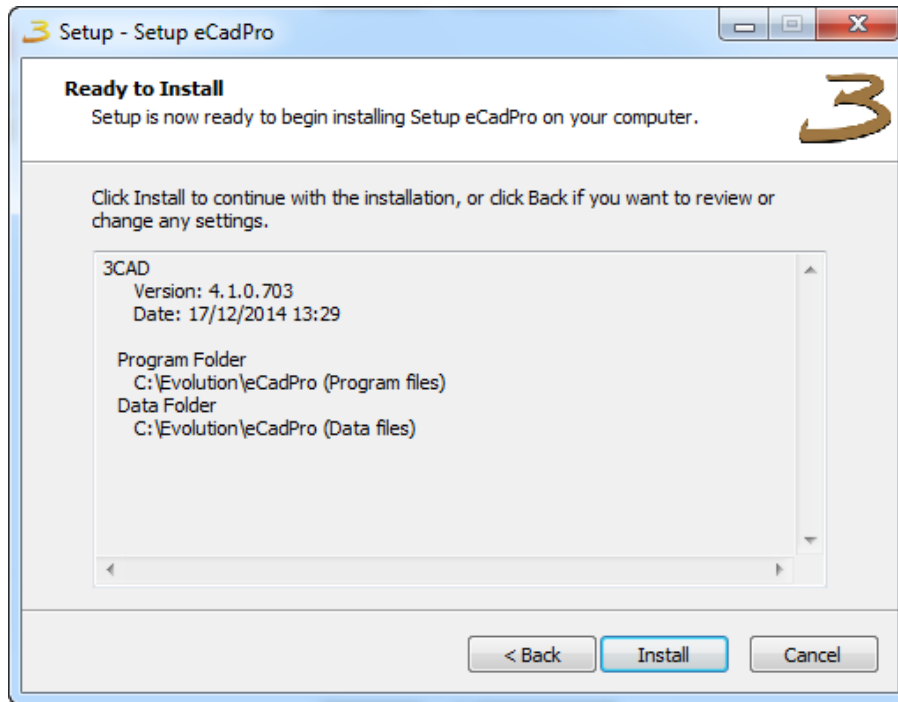

Figure 2.6: Start installer.
- d) Click on **Install** to launch the installer, see figure 2.6.